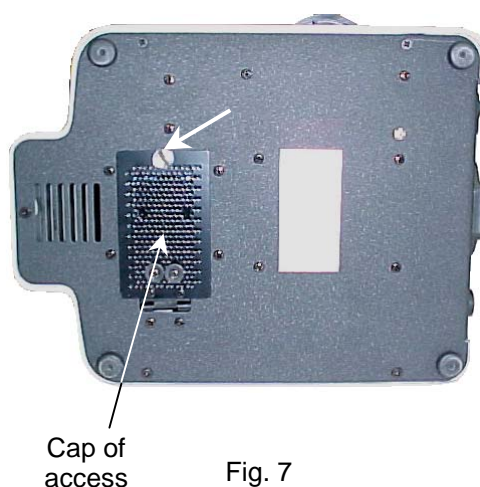

Fig. 7
- a. Only clean the top lens of the illuminator (19) using any of the methods mentioned above for cleaning the eyepieces or objectives.
- a. Lay the microscope on its side taking extreme care, especially with the eyepieces (1) and the specimen slide holder mechanism (6).
- b. Unscrew the screw marked by the arrow. (Fig. 7).